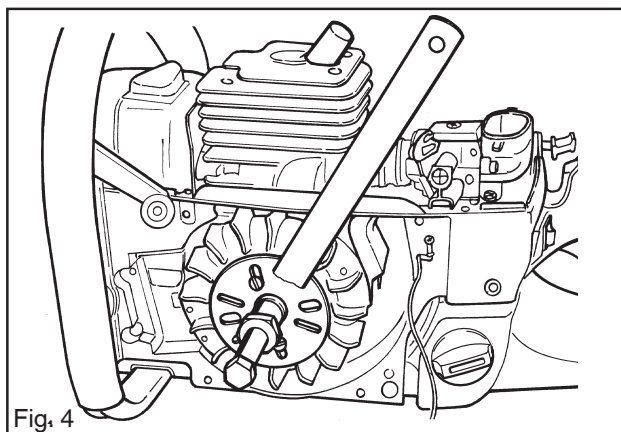

Fig. 4
8. Fit the flywheel puller (See "3 Service tools" on page 8). Tighten down the two M5x25 bolts approx. 10 turns. Tighten the centre bolt, while preventing rotation with the holding tool until the flywheel releases. See fig. 4.